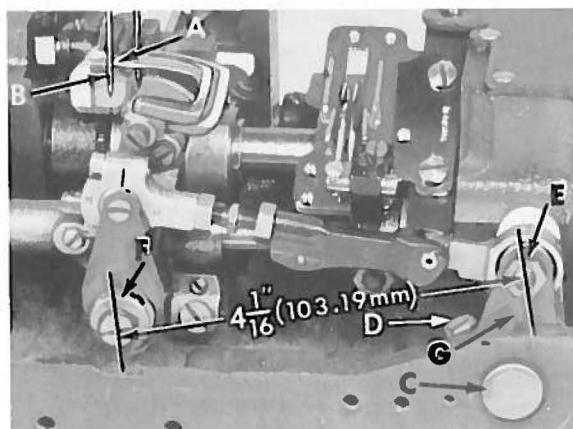

Fig. 4
Insert the looper in the looper rocker and turn handwheel in operating direction until the point of the looper (A, Fig. 4), moving to the left is even with the left side of the needle (B). Note the height of the eye of the needle with respect to the looper point, then turn handwheel in the reverse direction until the looper point again moves to the left, and is even with the left side of the needle. If the motions synchronize, the height of the eye of the needle with respect to the looper point will be the same. A variation of .005 inch (.127mm) is allowable. If the distance from the eye of the needle to the point of the looper is greatest when the pulley is turned in the operating direction move the looper drive shaft synchronizing stud (C) to the rear. Moving it in the opposite direction acts the reverse.
Moving of the looper drive lever shaft synchronizing stud is accomplished as follows: Loosen the clamp screw (D) of the looper drive lever. To move stud to rear (away from operator), a light tap with a small hammer, directly on the stud is all that is required. To move stud forward (toward operator), remove the cloth plate, throat plate support, oil reservoir top cover and oil reservoir back cover, then, a light tap on the looper drive lever rocker shaft, toward the operator, is all that is required. Note Looper drive lever (G, Fig. 4) has an oil seal collar and an "O" ring between it and the bed casting. All end play must be removed from the looper drive lever rocker shaft by compressing the "O" ring until drive lever (G) and the oil seal collar make metal to metal contact with the bed casting. Tighten screw (D).
screw (D) and reposition the looper drive lever (G) as required. Tighten clamp screw. If gauge is not available setting can be checked with a scale. The distance between the center line of the looper rocker cone and the center line of the looper lever stud should be $4 \frac{1}{16}$ inch (103.19mm) (Fig. 4).
With the looper at the extreme right end of its travel, check the location of the center line of the right looper connecting rod bearing, using gauge No. 21227 CX. Remove nut (E, Fig. 4) and place hole in gauge over threaded stud. The left end of the gauge should locate against the right side of the looper rocker cone (F). If adjustment is necessary, loosen the clamp